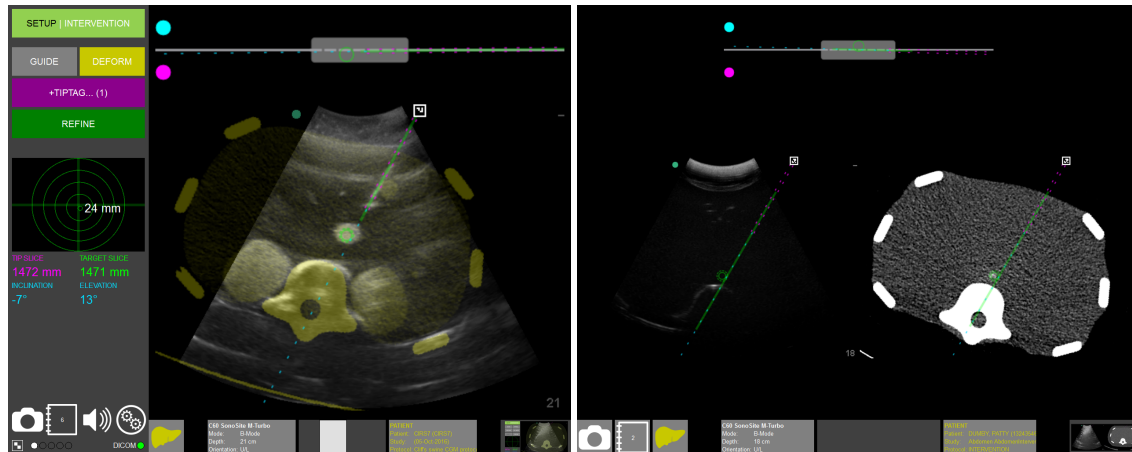

Figure 31: INTERVENTION Mode: Fusion (left) and Side-by-Side (right) views
After registration, press **INTERVENTION** to continue to INTERVENTION mode (Figure 31). To return to SETUP mode later, press **SETUP** again.
The **Main View** of the display is the primary, in-plane (lateral/axial) 2D imaging view (Figure 31).
- **Contrast/brightness slider and CT Hounsfield unit (HU) window presets (if applicable)** based on the organ scanned, with icons showing representative organs (top to bottom: bone, intestines, kidney, liver, lung, water). Pressing the preset icon brings up a menu which allows for free adjustment of upper and lower window boundaries. The contrast preset icons should not overrule clinical judgment about optimal contrast settings.
- **Fusion / Side-by-Side toggle** to select different viewing modes (Figure 31) – fused ultrasound and 3D volume overlay, or side-by-side separate modality views. All instrument and target overlays are available on all views. Without registration of a 3D volume, only ultrasound will be shown.